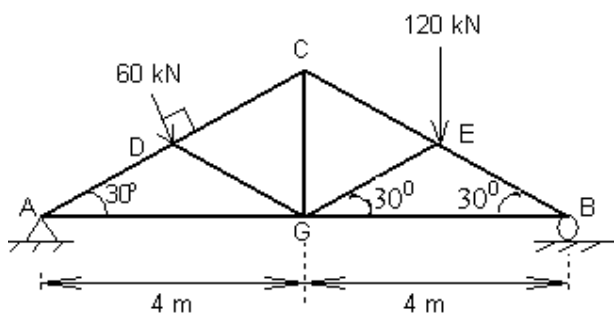

Fig. 2
b) Determine the forces in the members CE, GE and GB of the frame shown in Fig. 2 using method of sections. D and E are the mid points of AC and BC respectively. (6M+9M)